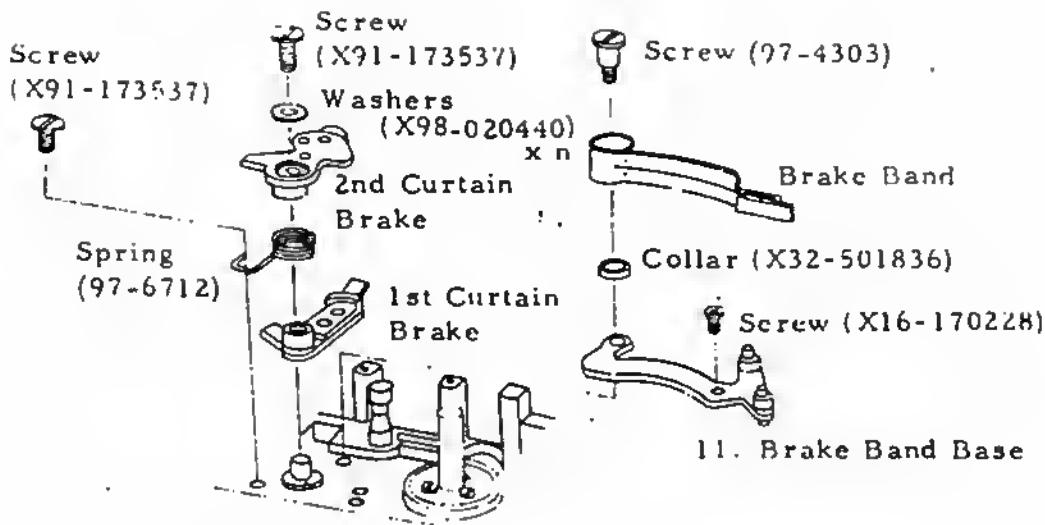

Fig. 3
- 2) Install each part as shown in Fig. 3.